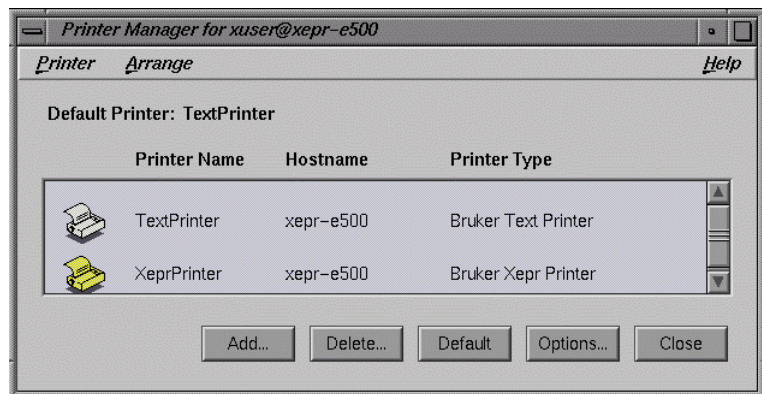

Figure 15-16 The Printer Manager dialog box.
2. **Open the printer manager.** Click Toolchest > System > Printer Manager. (See Figure 15-16.)